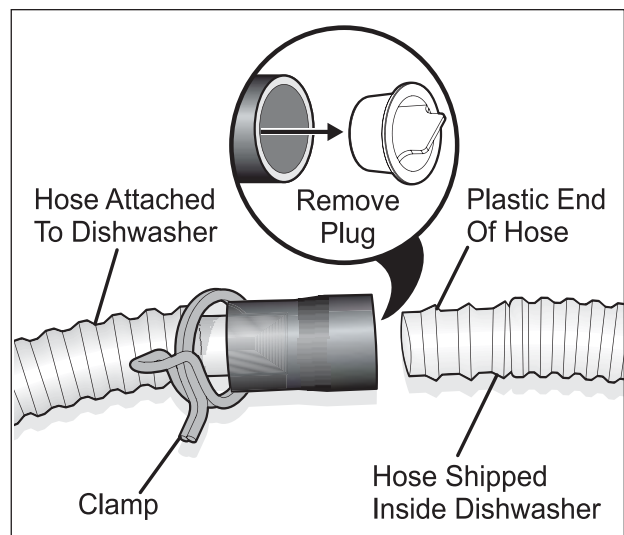

Figure 2-5. Connecting Drain Hose
2. Use only the spring clamp that is provided in the accessory kit, place spring clamp over one of the hoses. (See Figure 2-5)